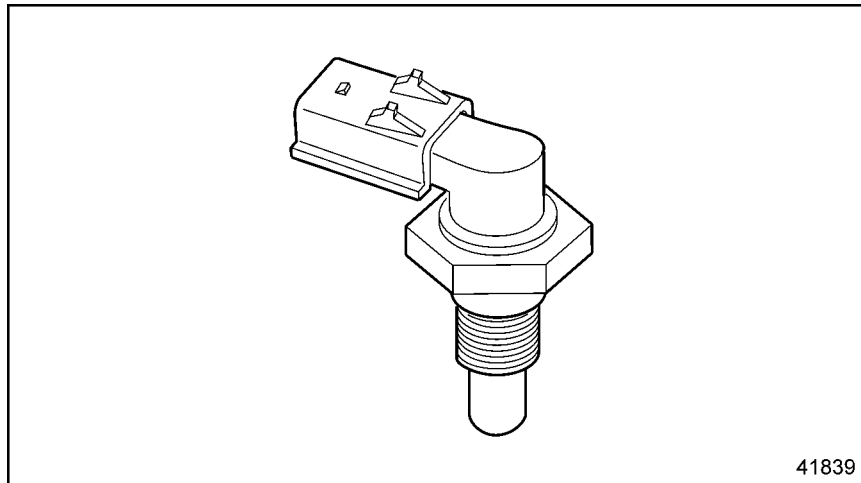

Figure 50-2 Turbo Compressor In Temperature Sensor
- [b] If no damaged pins are found, replace the sensor (see Figure 50-2). Then, refer to section 50.2.2.1.